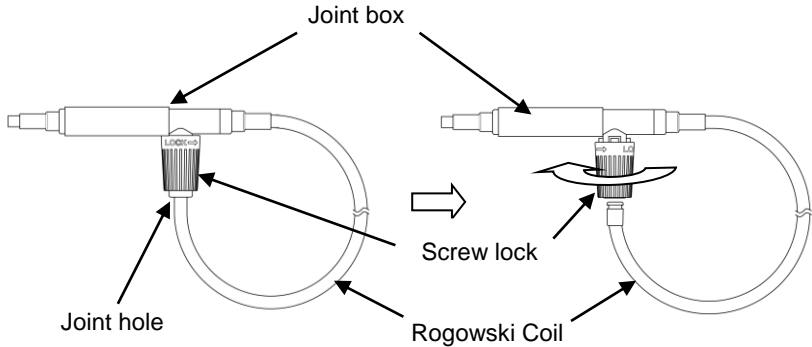

Figure 4.1 How to Release Rogowski Coil
- (3) Place the target to be measured through the Rogowski Coil Sensor part.
- a) As illustrated in Figure 4.1, to release the lock of the Rogowski Coil, be sure to turn the screw lock in a direction opposite the direction indicated by "LOCK" until you feel a click. After releasing the lock, remove the one end of the Rogowski Coil from the joint hole.